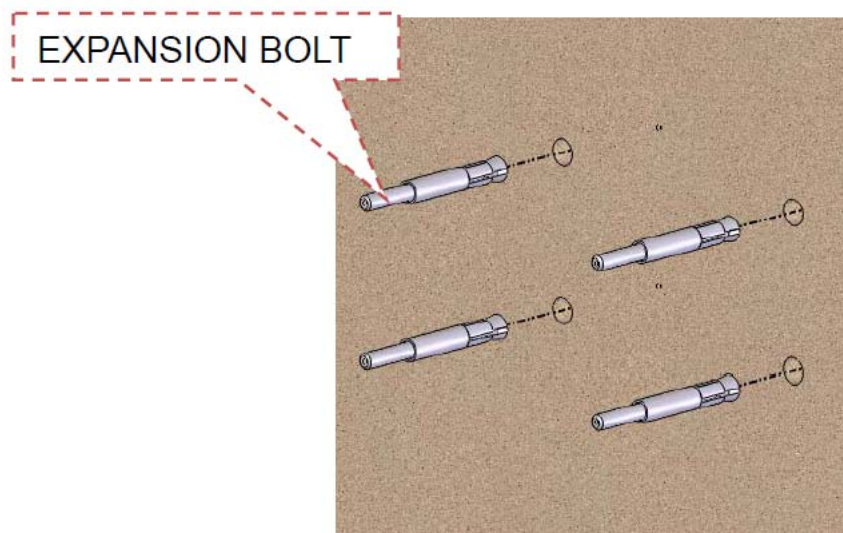

Figure 26
Step 2 The M8 expansion bolt put into the hole, as shown in figure 26.